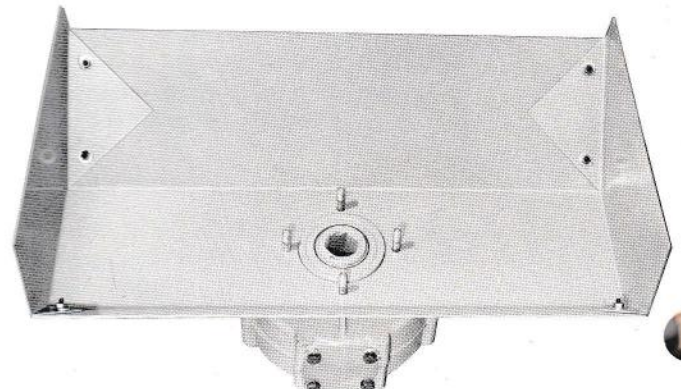

Figure 23
4. Fit the Hood as shown in Figure 23. Insert the Cultivator Drive Shaft into the Gear Housing.